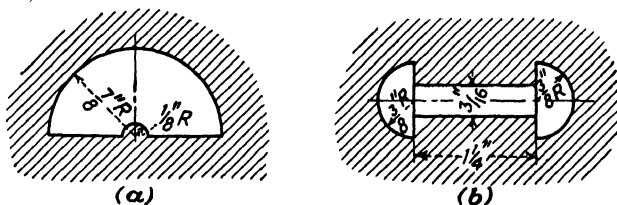

Fig. 302.
22. Calculate the area of the cutout portions of Fig. 302.